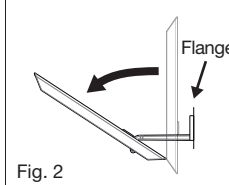

Fig. 2
8. Peel and remove (1) piece of protective strips from tape on the supplied wall anchor brace bar. The tape is necessary to allow the supplied wall anchor brace bar to adhere to the back side of the wall for placement. (This will ensure that the bar will stay upright during installation.)
9. Get supplied Anchor, flip the bar downward at the end of the arm. The bar should be tilted up only slightly. **(Fig. 2)**